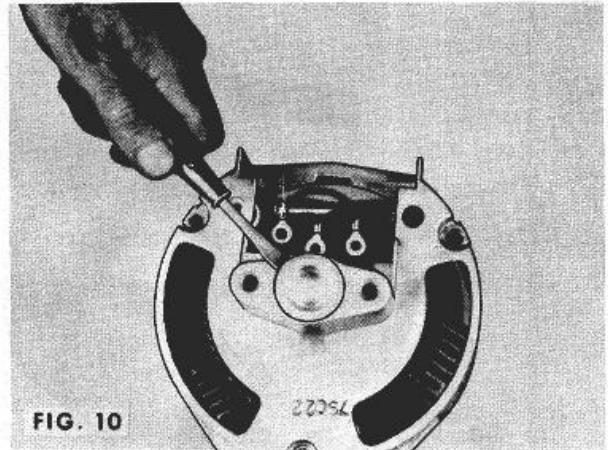

Fig. 10
- Pry flanged dust cap out of housing. (See Figure 10.)